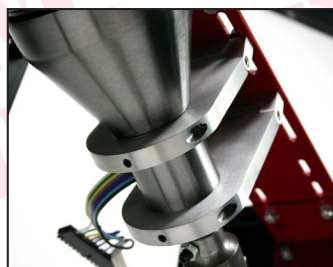

Figure 4
3. Install a Flange Bearing to support your steering shaft, and to seal the fire wall. (Part# MSD52130) Attach the universal joint(s) and shafting from the column to the steering box or rack. Most universal joints can bend up to 35 degrees. If you need more than 35 degrees, but less than 70, a double u-joint is required. A support or rod end bearing is necessary for every u-joint over two within the system. *(Figure 4)*